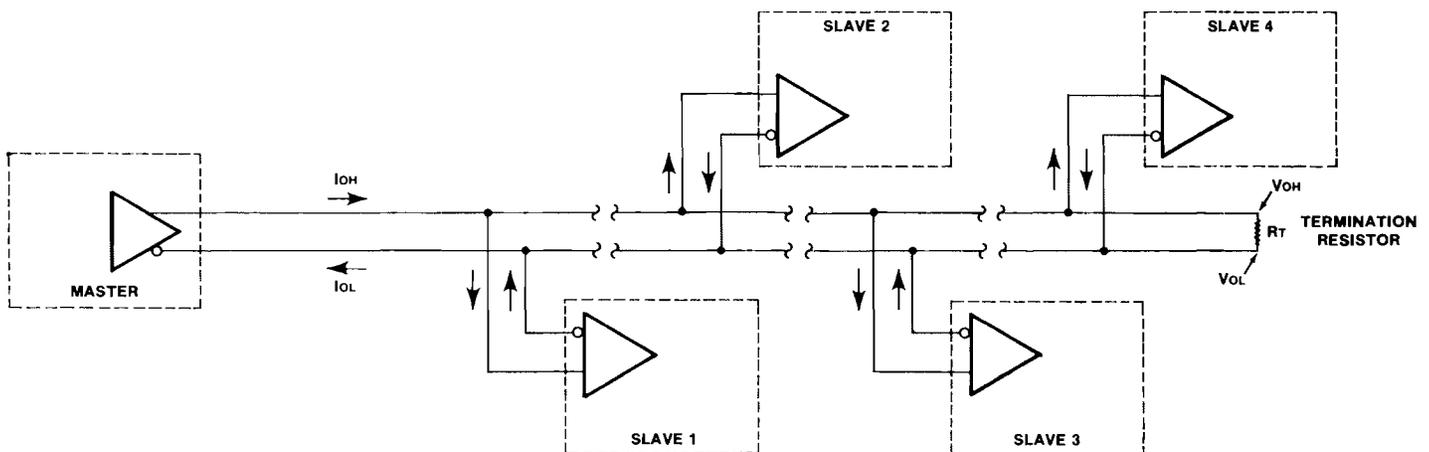

Figure A-7. System Example – Termination Resistance
b. As an example to calculate the termination resistance (R_T), assume that the system being configured contains four slaves, as shown in figure A-7.